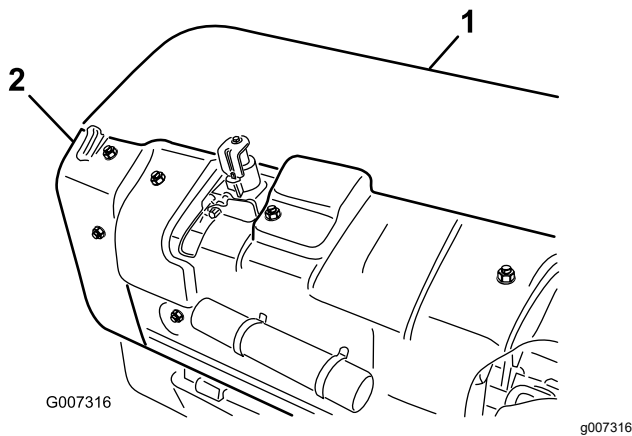

Figure 34
- A. Remove the rear coring head cover (Figure 34).
- B. Remove the pulley shield mounting bolts and remove the shield (Figure 34).